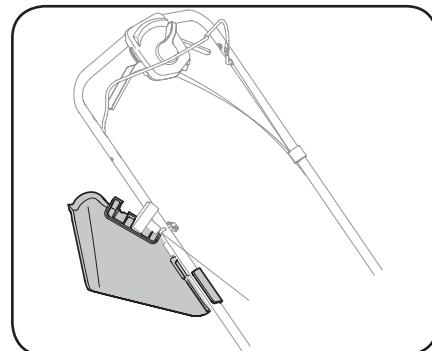

Figure 2-9
- When not using, you may secure side discharge chute to handle as shown in Figure 2-9.